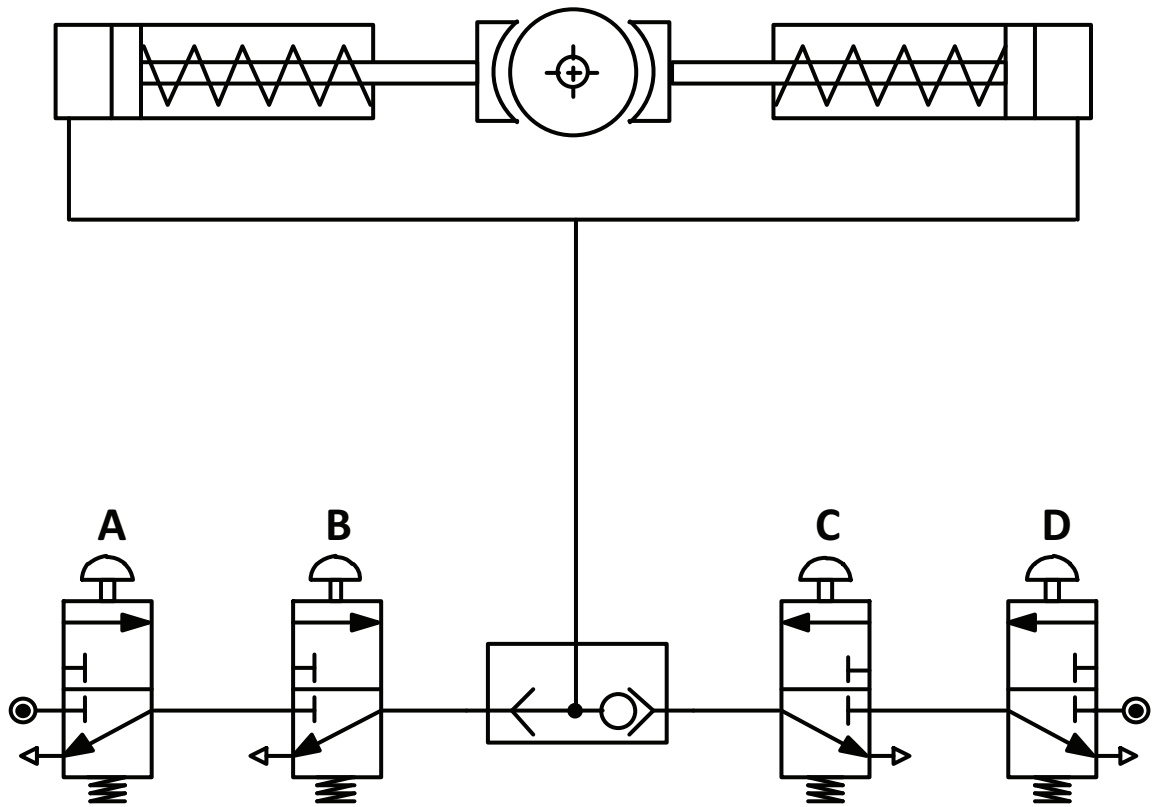

Fig. 6
- (b) **Fig. 6** shows a pneumatic circuit used to apply brakes to a wheel.
Show on **Fig. 6** how the valve should be fitted in the circuit. [1 mark]